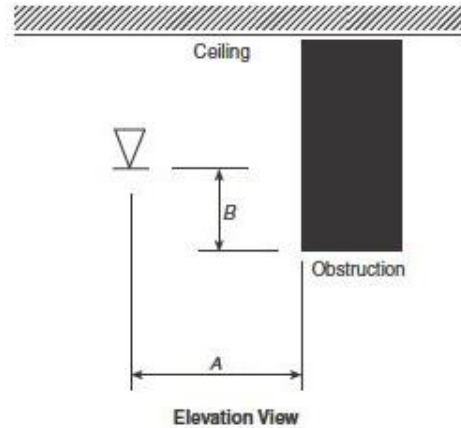

FIGURE 8.6.5.1.2(a) Positioning of Sprinklers to Avoid Obstructions to Discharge (SSU/SSP).
Note: For (A) and (B), refer to Figure 8.6.5.1.2(a).